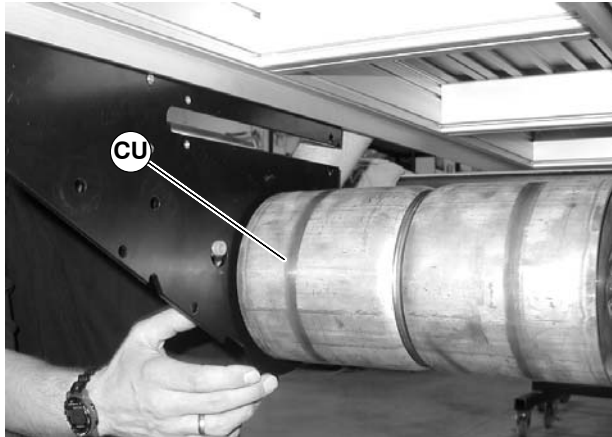

Figure 83
11. Slide drive pulley (CU of Figure 83) out of attached side plate.